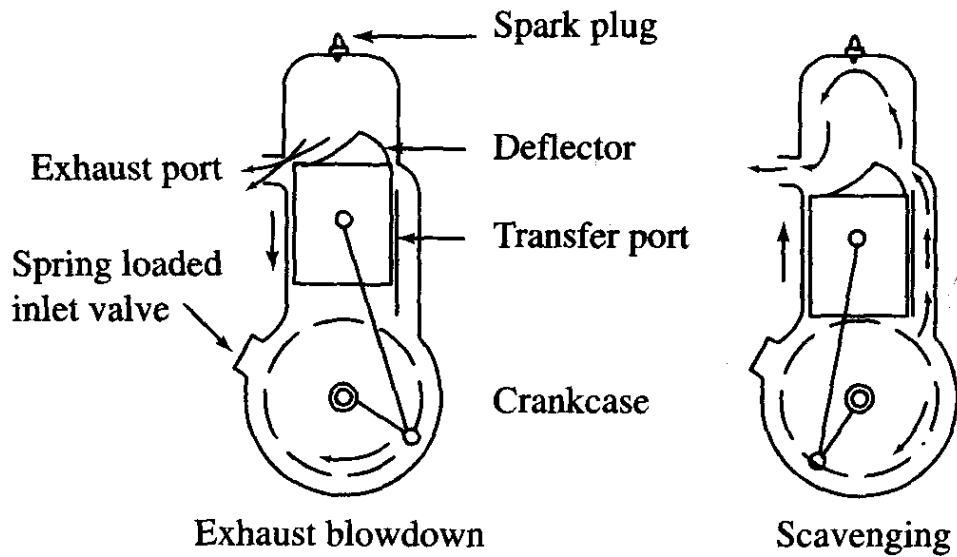
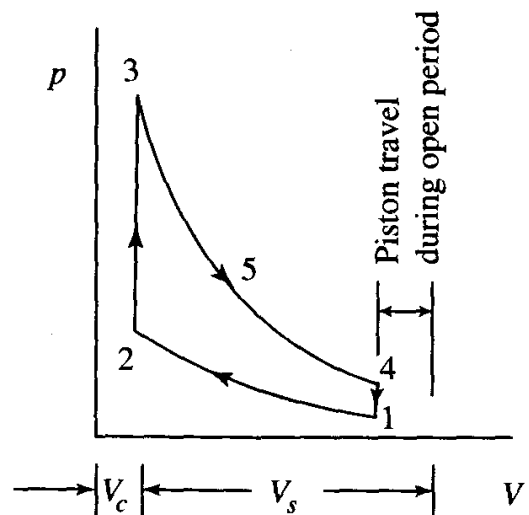

Fig. 1.8 Crankcase scavenged two-stroke SI engine
Fig 1.9 Ideal  $p$ - $V$  diagram of a two-stroke SI engine
- Figure 1.8 shows one of the simplest two-stroke engines, viz., the crankcase scavenged engine. Figure 1.9 shows the ideal p - V diagram of such an engine.